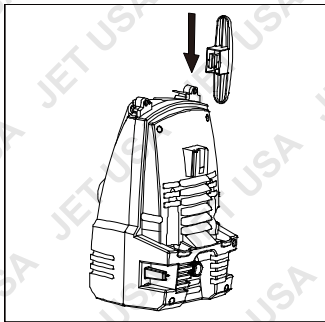

Figure 1a
1. Insert cable hook hold into the machine (figure 1a)